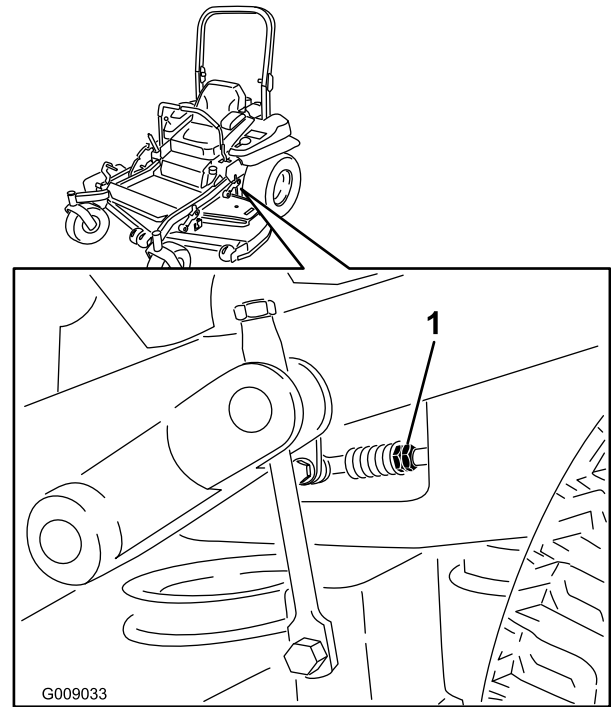

Figure 81
7. Bring the motion control levers into the neutral position. Adjust pump control rod lengths by rotating the double nuts on the rod in the appropriate direction until the wheels slightly creep in reverse (Figure 81). Move the motion control levers to the reverse position and while applying slight pressure to the lever allow the reverse indicator springs to bring the levers back to neutral. The wheels must stop turning or slightly creep in reverse.